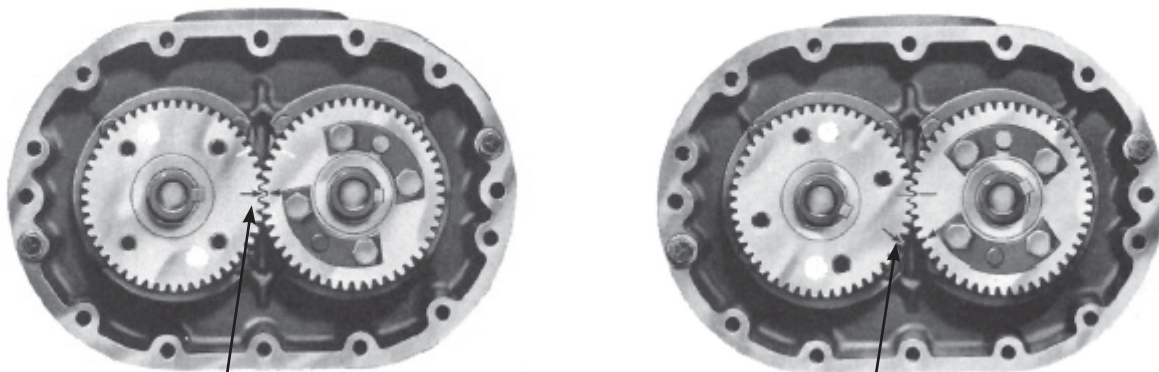

FIGURE 11
9. Align the timing marks (See Figure 11 on timing gears).
10. Rotate the drive gear in a clockwise rotation approximately 4 or 5 teeth and mark this location (see Figure 11). This gear position is necessary so rotors will clear and not jam. Do not allow the reference marks to change location while the driven gear is being removed